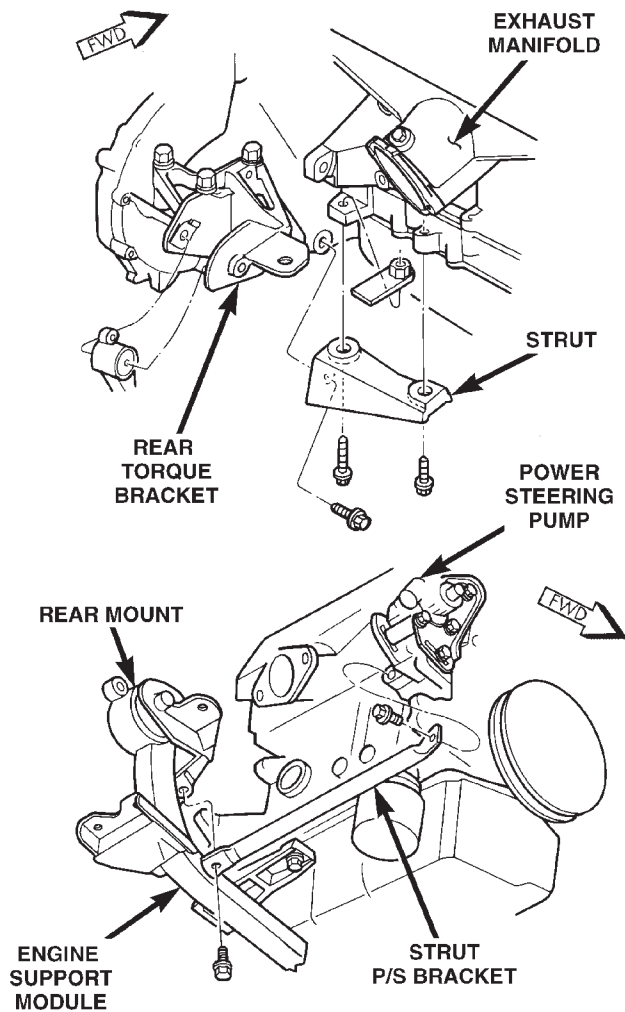
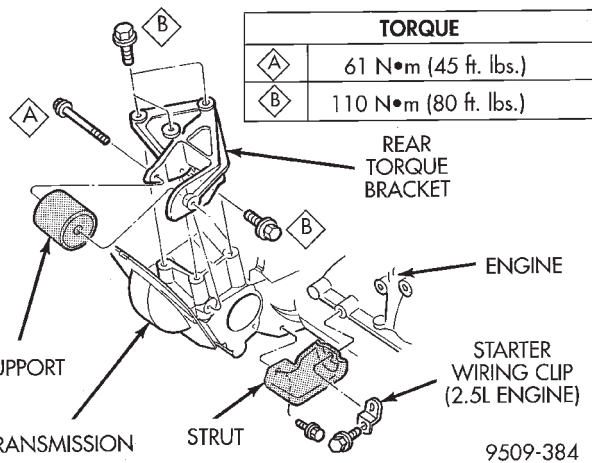

Fig. 19 Engine Mounting—Rear 2.0L
Fig. 18 Engine Mounting—Rear 2.4 and 2.5L
- (1) Install thru bolt at front mount. Do not tighten at this time.
- (2) Install lower radiator support.
- (3) Install attaching bolts from support module to lower radiator support.
- (4) Install upper bolt at rear support strut bracket.
- (5) Install thru bolt at rear mount see (Fig. 18) or (Fig. 19) tighten to 61 N·m (45 ft. lbs.).